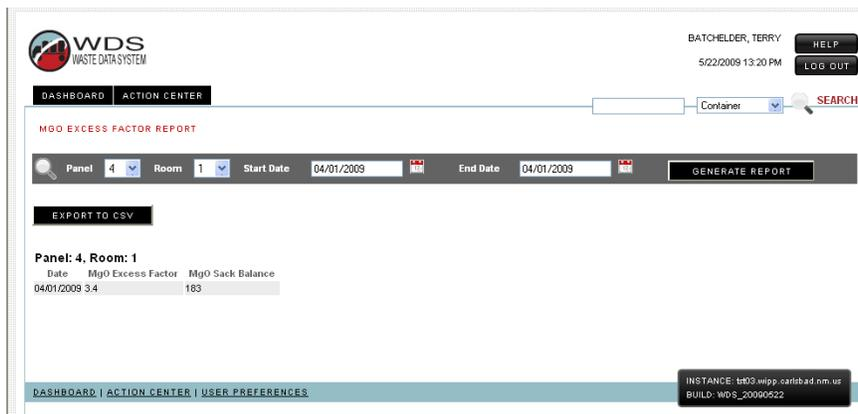

Figure 6-5 - MgO Excess Factor
6.2.5 Select the **Generate Report** button as shown in Figures 6-5 and 6-6.